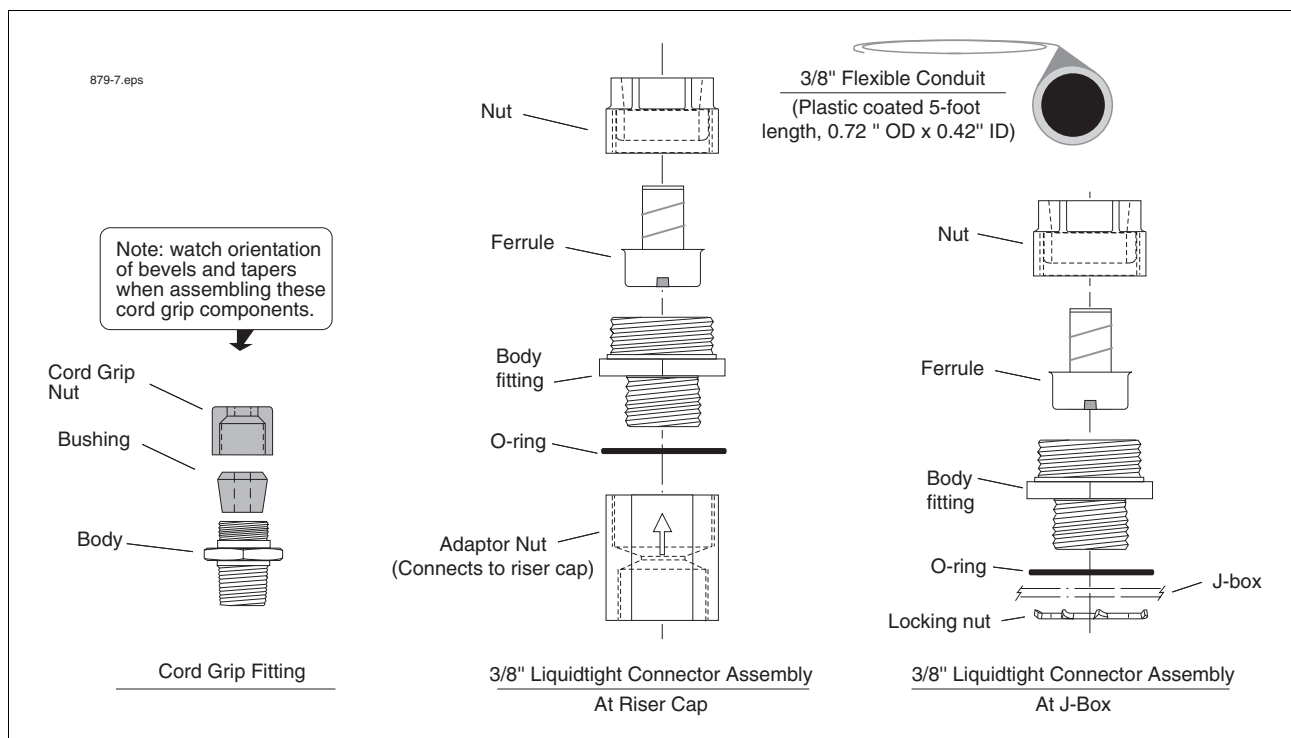

Figure 10. Mag Probe AST Installation Kit
This kit is recommended when installing Mag Probes into an above ground storage tank (AST). This kit contains a length of flexible conduit, connectors, etc., for easier probe access. The kit contents are listed in Table 6 and shown in Figure 10.
1. If you are using the one piece cap (see Figure 13 on page 22), push the end of the probe cable through the cap and cord grip bushing, leaving a minimal amount of slack between the probe and cap. Discard the cord grip nut and attach the Adaptor Nut from the AST kit to the cap (see Figure 10 on page 19). Tighten the Adaptor Nut until the cable is held firmly. Go to Step 3.
2. If you are installing the metal cap and ring (see Figure 14 on page 23), screw the ring onto the 4" riser until the gasket contacts the pipe, then use a pipe wrench to tighten it an additional 3/4 turn. Using UL-classified pipe sealant (suitable for the fuels involved), screw the cord grip fitting into the tapped hole and tighten. Place the cord grip bushing in the fitting. Discard the cord grip nut and loosely screw the Adaptor Nut from the AST kit onto the cord grip fitting (see Figure 10 on page 19). Push the cable through the metal cap, bushing, and Adaptor nut, then clamp the cap onto the ring. Make sure there is a minimal amount of slack between the probe and cap, then tighten the Adaptor Nut until the cable is held firmly.
3. Next assemble the liquidtight connectors on both ends of the flexible conduit as shown in Figure 10. Push the cable through the flexible conduit assembly and into the J-box. Connect the flexible conduit assembly to the Adaptor Nut on one end and the J-box on the other.